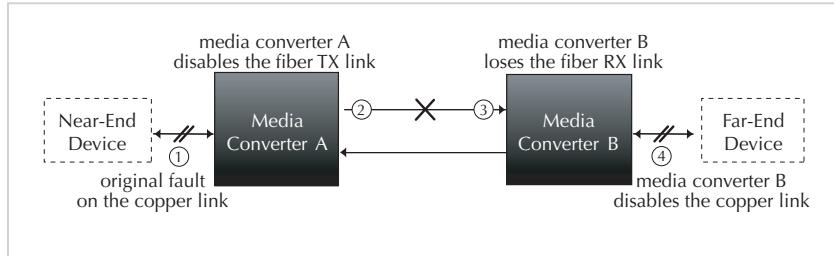

Figure 14: Link Pass-Through
The SIBTF10xx-110 industrial switch provides a Link Pass-Through feature, which allows monitoring its fiber (FX) and copper (RX) (receive) ports for signal loss. Refer to Figure 14, in the event of an RX signal loss (1), the industrial switch will automatically disable the TX (transmit) signal (2) thus “passing through” the link loss (3). The far-end device is automatically notified of the link loss (4), which prevents date losses by transmitting data over an invalid link unknowingly.